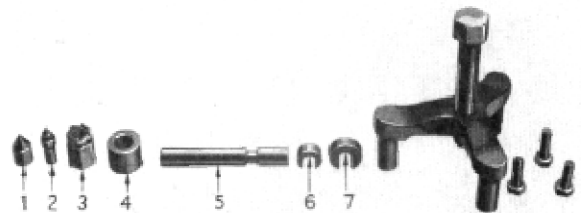

Figure 2
Water Pump Reconditioning Tool Set No. J-694 (available through Hinckley-Myers Company, Jackson, Mich.) is shown in Figure 2. This set provides an easy means of disassembling and reassembling the water pump without damage to parts and insures proper alignment of bearings after rebuilding.
(2) Insert the pilot (2—Fig. 2) in the cutter 3 and assemble on end of screw. Tighten screw so that pilot enters center of pump shaft and teeth of cutter come against shaft.